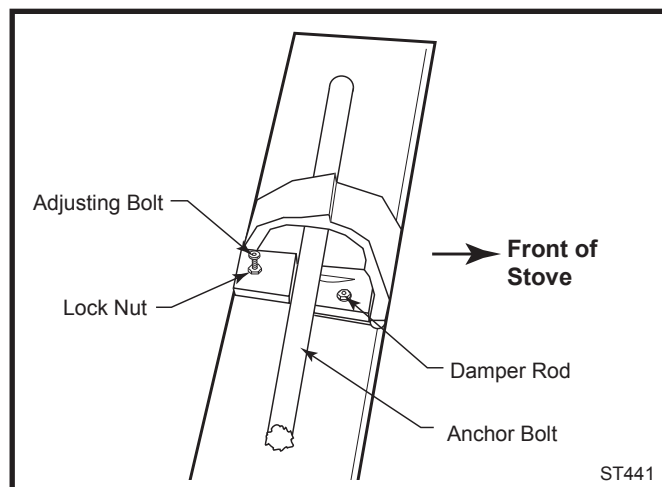

Fig. 24 Damper adjustment.
- Loosen the adjusting bolt's lock nut. (Fig. 24)